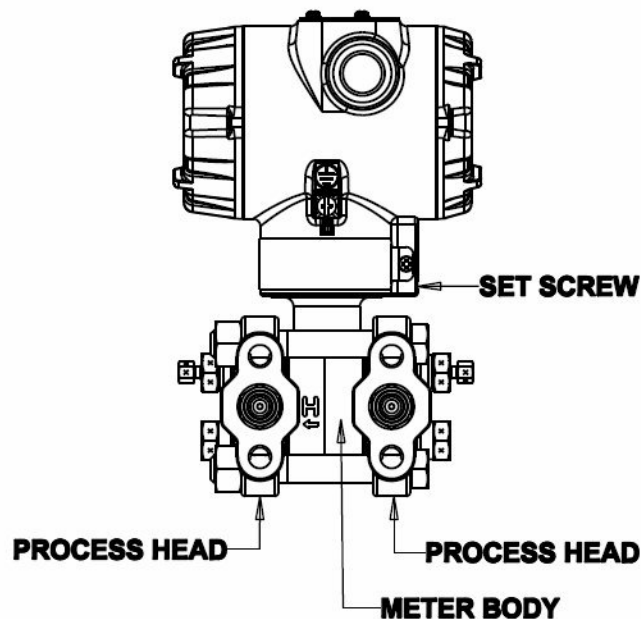

Figure 24 – Hardware Location to Remove the Meter Assembly
8. Refer to Figure 24. Use a 2 mm hex wrench to completely loosen the set screw on the outside of the housing to permit rotating the meter body.